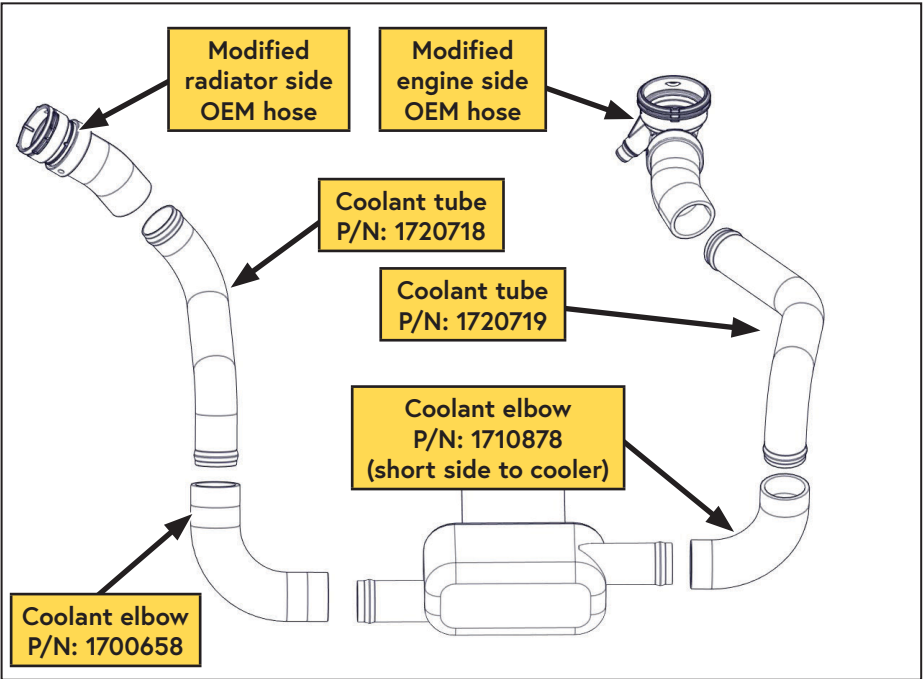

Figure 8 — VMAC cooler assembly
Refer to Figure 8 on page 12 for an illustration of the modified coolant system.
- ☐ Connect the modified OEM hoses as indicated (Figure 8).